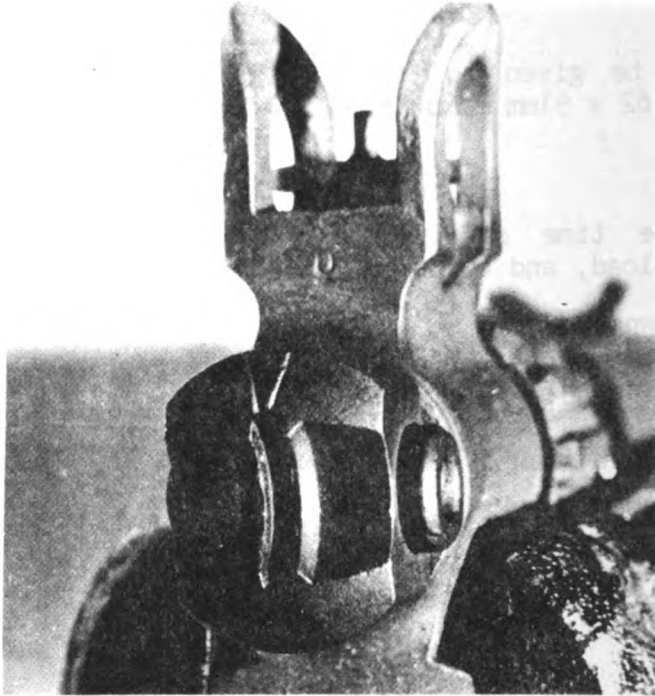

Figure 2
(1) Unfold and press in on the slide lock.
(2) Slide the aperture to the specified range in hundred meters (100-460 meters).
b. Adjust gas plug for firing rifle grenades by pressing in on the plunger of the plug and rotating it to the required position. (See fig. 2)